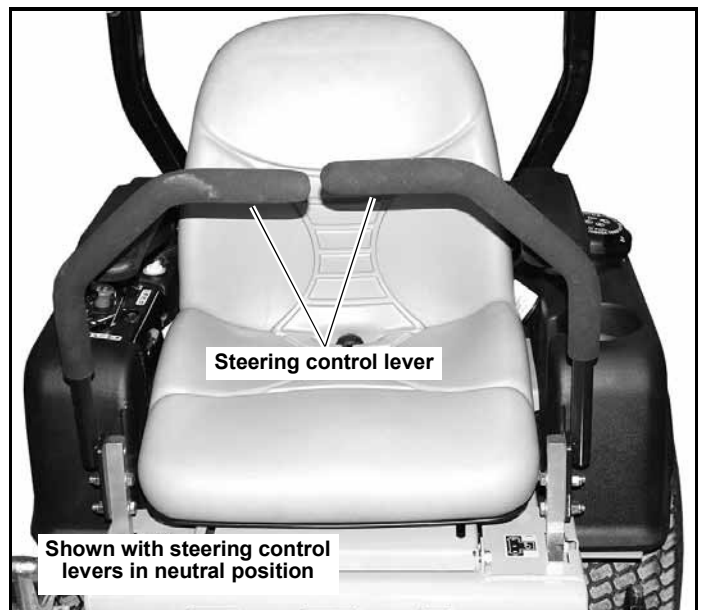
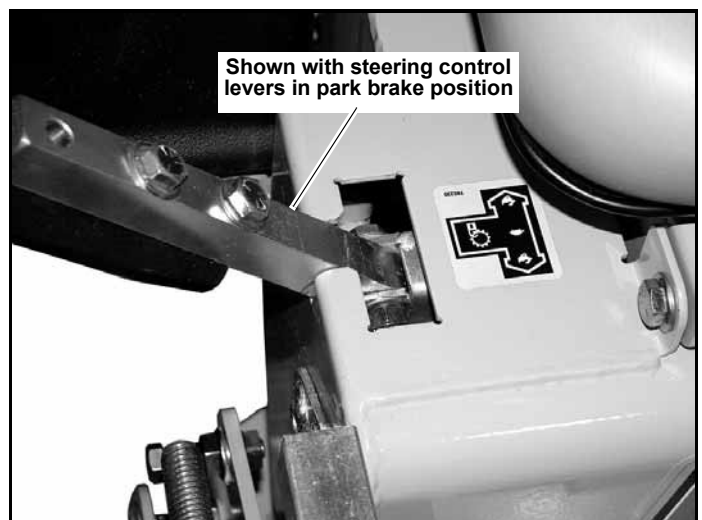

Figure 3-2
Figure 3-3
- A. Steering control levers (Figure 3-2 & Figure 3-3)** — these levers control the mower’s speed, direction, stopping, and park brake. These levers are used to steer,